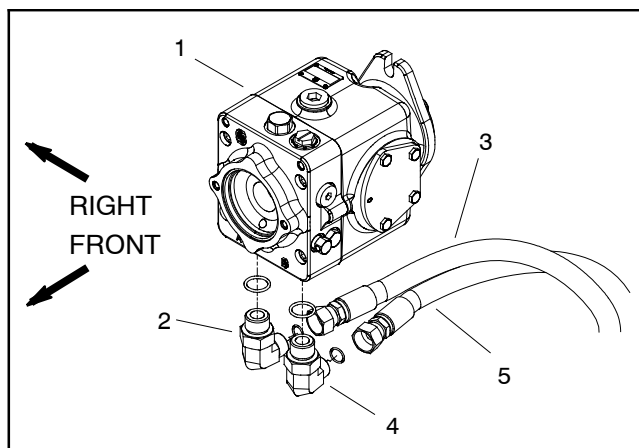

Figure 51
3. Thoroughly clean junction of hydraulic hose and left side elbow fitting on bottom of piston (traction) pump (Fig. 51). Disconnect hose from left side pump fitting.